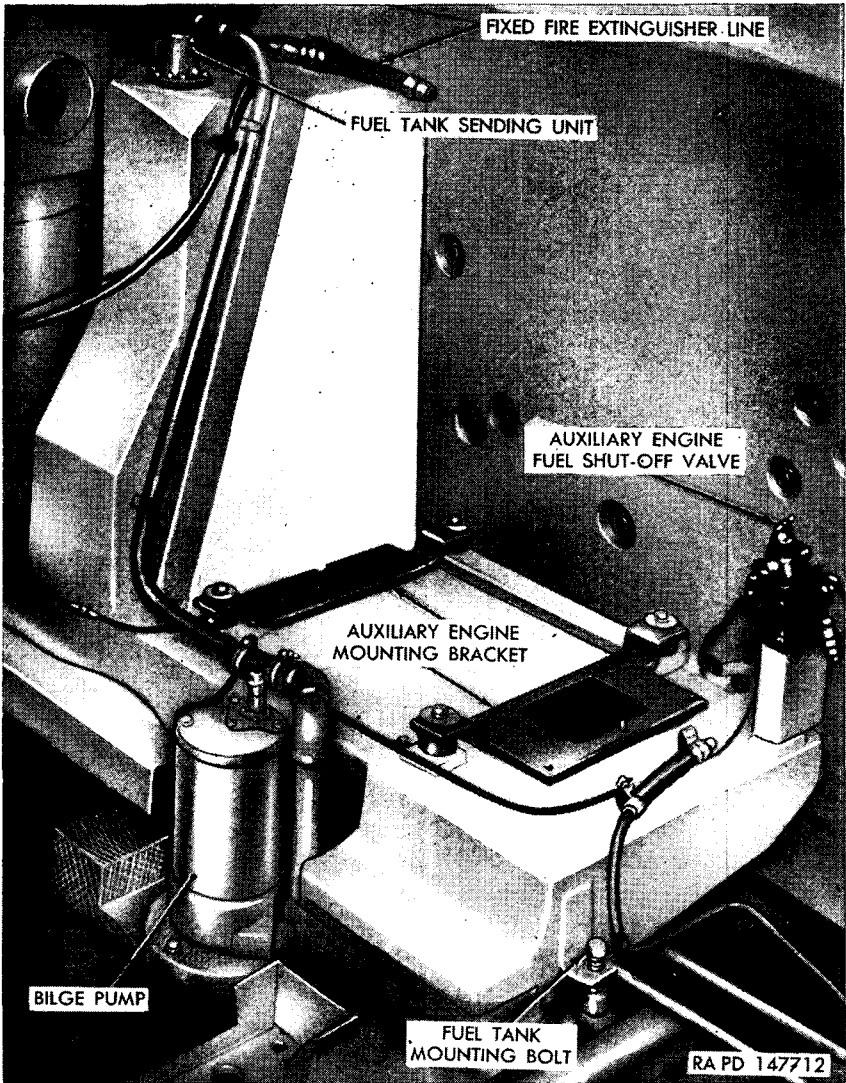

Figure 152. Right fuel tank—installed view.
(1) *Remove right fuel tank* (fig. 152).
- (i) Remove three fuel tank mounting bolts (fig. 152), locking wires, washers, and springs. Two mounting bolts are located on rear of fuel tank and one on the top front. Raise the filler cover to gain access to front mounting bolt.
- (3) *Install right fuel tank* (fig. 152).